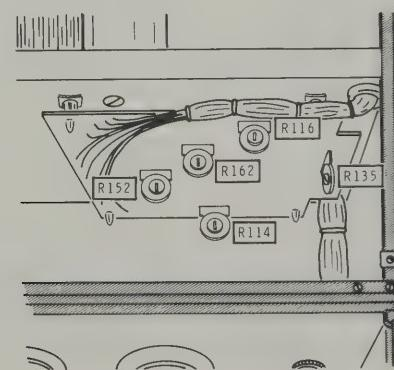

Figure 1-2
- Circuit board controls (See Figure 1-2) — Center of rotation.